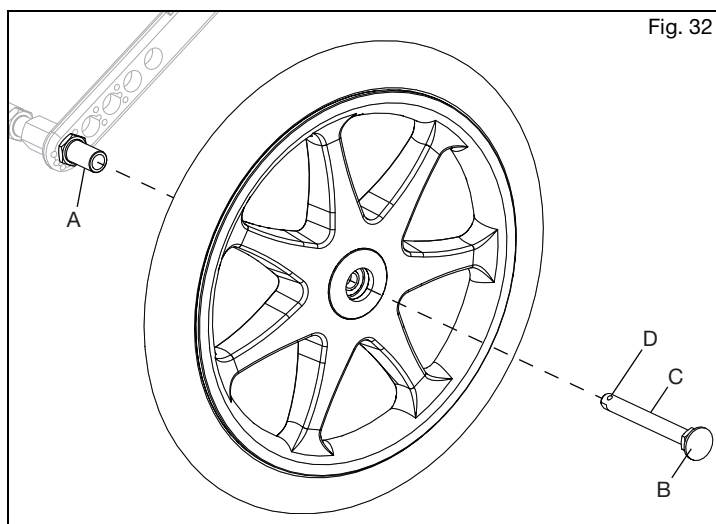

Fig. 32
- a. Push in the quick release button (Fig. 32:B) on the axle (Fig. 32:C) to allow the locking balls to retract. Make note of the difference between the extended and depressed position of the axle release button and its effect on the locking balls (Fig. 32:D) on the other end of the axle.
- c. Push on the quick release button again and slide the axle into the axle sleeve (Fig. 32:A).